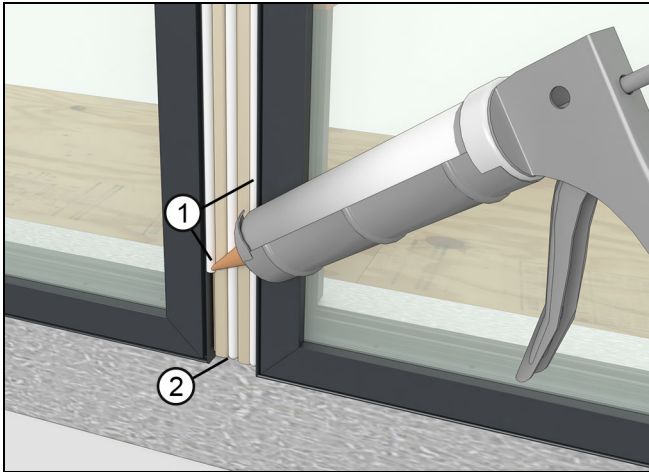

Figure 102
23. Apply three beads of sealant over the mull fillers— one on each side (between the fillers and frame) and one in the middle. See Figure 102.